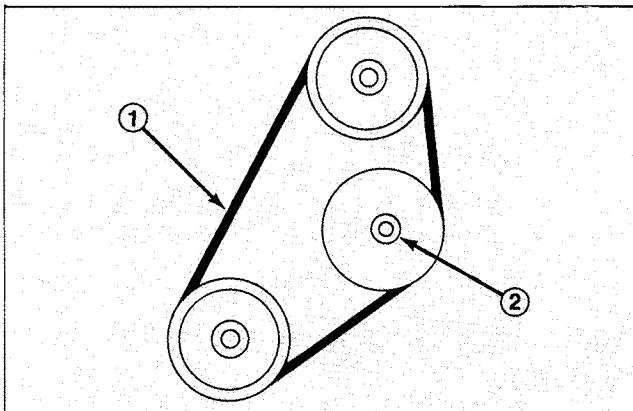

Figure 48
3. Belt should deflect 1/4 in. (6 mm) midway between the pulleys with 5 lb force (22 N) (Fig. 48). If deflection is incorrect, proceed to step 4. If correct, proceed to step 5.
4. Loosen locknut securing idler pulley (Fig. 48). Push idler pulley against belt until proper deflection is achieved and tighten idler pulley locknut (Fig. 48).
2. Loosen locknut securing idler pulley, slide pulley away from belt, and remove belt from top and bottom pulleys (Fig. 48).
3. Install new belt and adjust for proper tension. Push idler pulley against belt until belt deflects 1/4 inch (6 mm) with 5 lb force (22 N) midway between top and bottom pulley locknut to secure adjustments (Fig. 48).